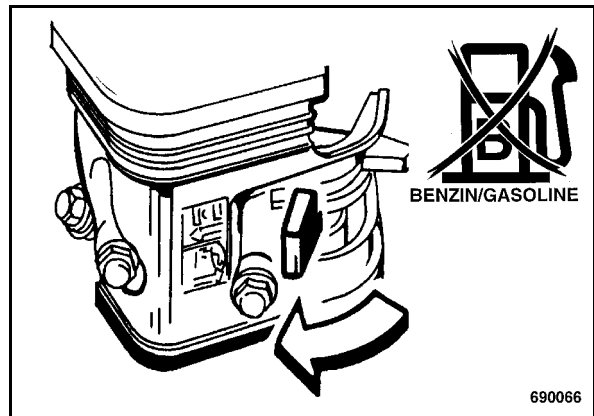

Fig. 30
- Close the fuel tap (Fig. 30) by turning in direction of arrow.